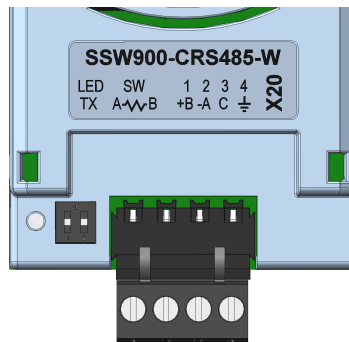

Figure 3.2: Indication LED and switch to enable the termination resistor
The RS485 communication accessory has switches that can be activated to enable the termination resistor according to figure 3.2. The configurations of the switch to enable the termination resistor are shown in table 3.2.
The SSW900 soft-starter has a green LED (TX) to indicate data transmission by the product (Figure 3.2).